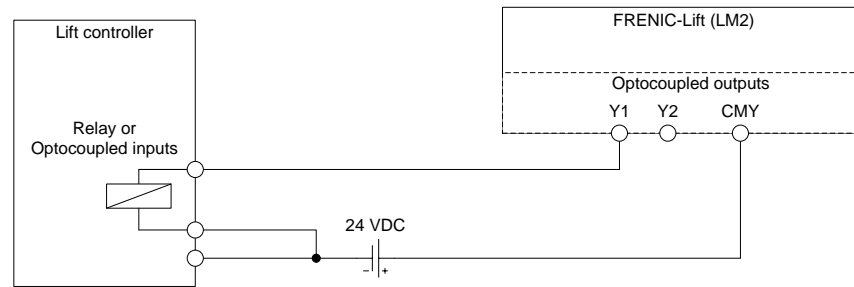

Figure 5.7: Connection using PNP (Source) Logic
- ⚡ In case of Figure 5.7 example, the voltage OFF is 24 VDC (Power supply connected to CMY).*